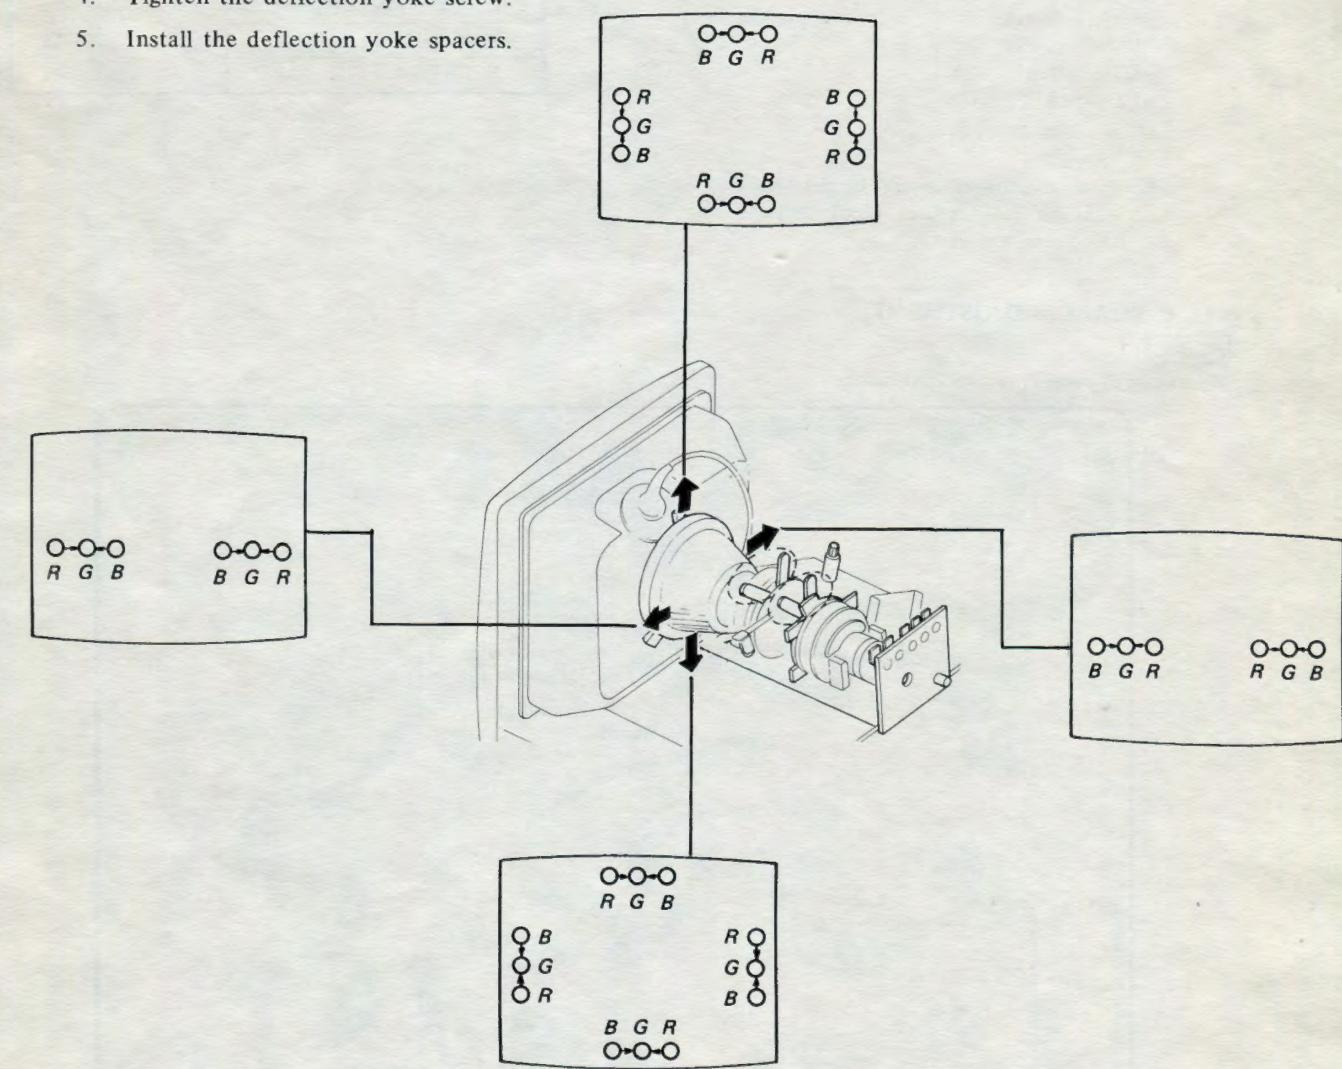

Fig. 3-5.
- 3. Move the deflection yoke for best convergence as shown in Fig. 3-5.